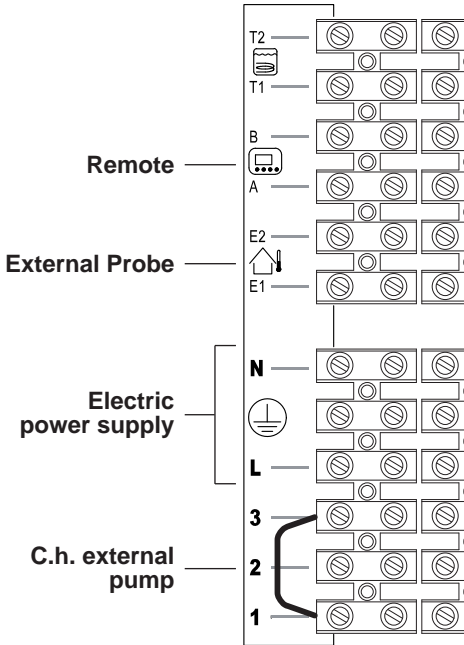
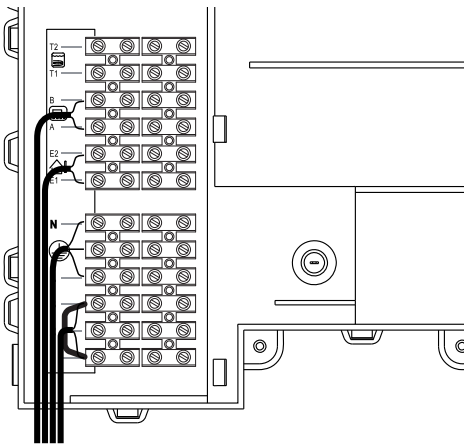
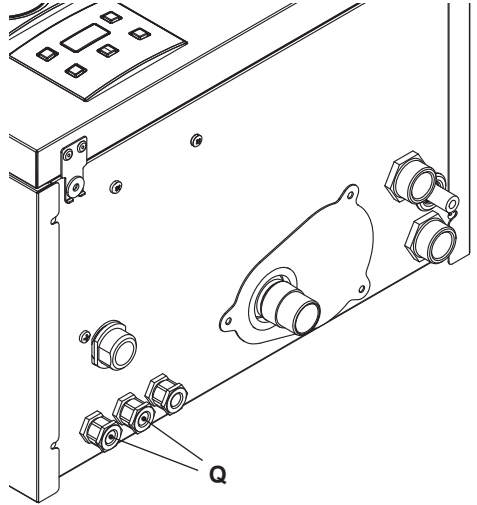

Fig. 6.16
Fig. 6.17
Fig. 6.18
- Connect the electric power supply cable coming from the fused spur isolation switch to the power supply terminal block of the boiler Fig. 6.16 keeping the same connections for the live (brown wire) and the neutral (blue wire). External 3A fuse or fused plug with same current rating is recommended.
The route of the boiler and ambient thermostat's electric power supply cable or wires must follow the route indicated in Fig. 6.17.
the relevant cable clamps Q (Fig. 6.18).
Use the clamps indicated in Fig. 6.16 to connect the ambient thermostat.
Use the ambient thermostat's clamps indicated in Fig. 6.16 and Fig. 6.17. to connect the zone valve. Insert the electric cables of
the zone valve's micro switch contacts in clamps "1 and 3" of the ambient thermostat's terminal block as in Fig. 6.17.
The route of the boiler and ambient thermostat's electric power supply cable or wires must follow the route indicated in Fig. 6.17. Allow the cables to exit the boiler by using the relevant cable clamps Q (Fig. 6.18).
The route of the external probe's connection wires must follow the route indicated in Fig. 6.17.
Allow the cables to exit the boiler by using the relevant cable clamps Q (Fig. 6.18).
The route of the remote control cable must follow the route indicated in Fig. 6.17.